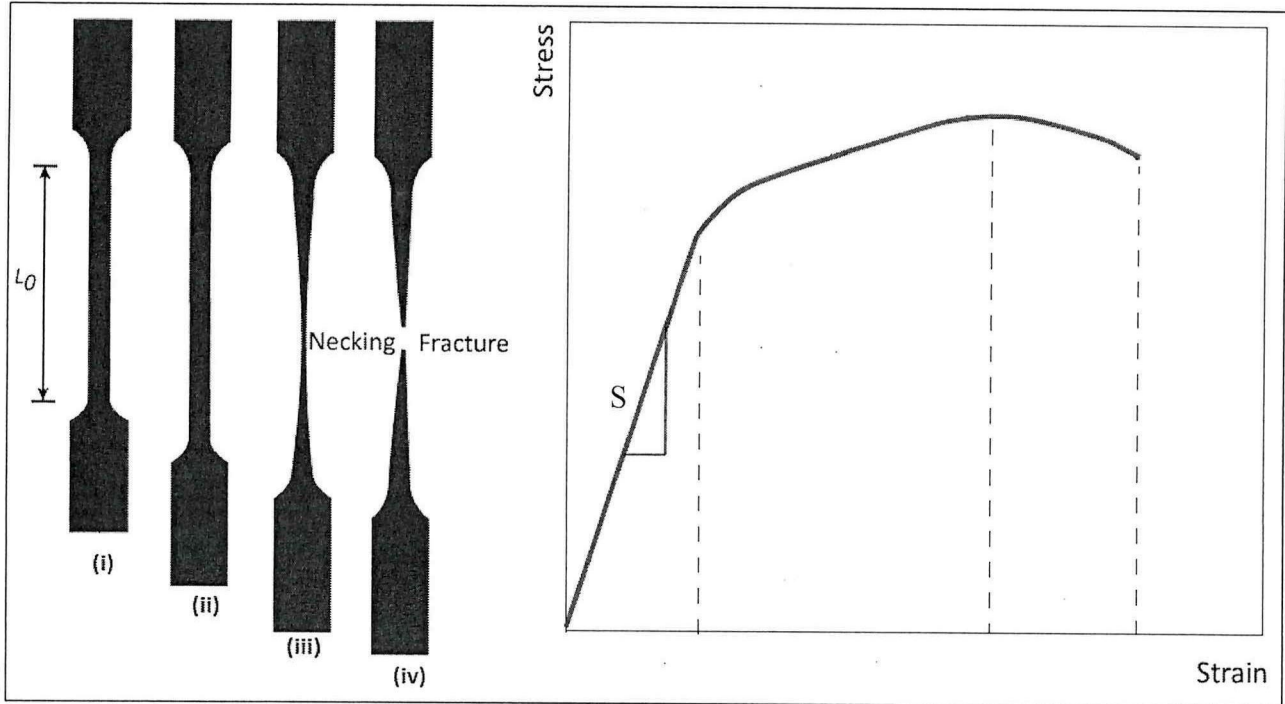

Figure Q2
- Q2** (a) The graph in **Figure Q2** shows the relationship between tensile stress and tensile strain for a specimen of metal. Copy the graph and label it with the following regions or points (i), (ii), (iii), (iv) in accordance to the shape of a ductile specimen in **Figure Q2**. (4 marks)
- (b) (i) Explain the significance of the slope S as shown in **Figure Q2**. (4 marks)